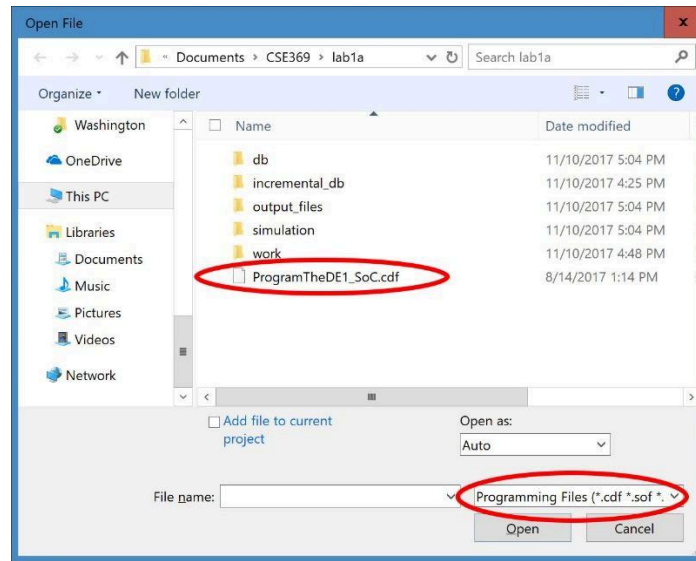

Figure 11: Open the chain description file (.cdf) to program the DE1-SoC
- 3) In Quartus, go to File→Open. In the “Files of type” box at bottom, select “Programming Files (*.cdf ...)” and then double-click on `ProgramTheDE1_SoC.cdf` (*Figure 11*).